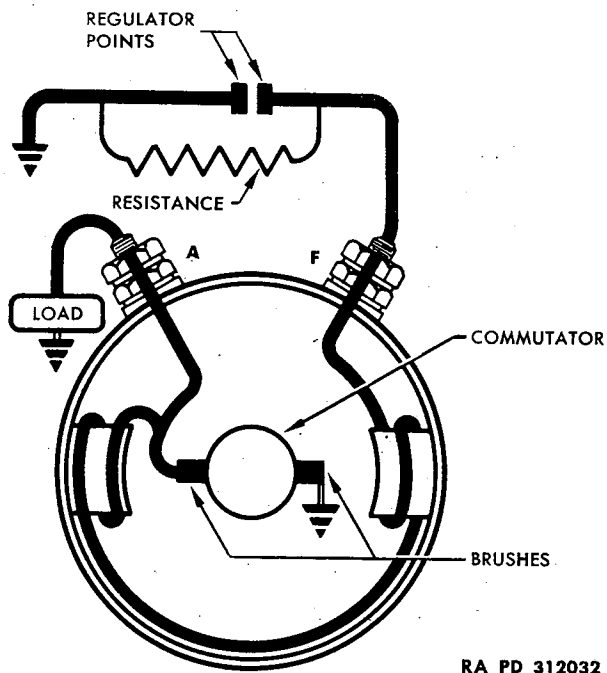

Figure 1—Type One Generator—Externally Grounded Field Circuit
e. The part of the circuit in which the resistance is inserted determines whether the generator is type one or type two. Figure 1 illustrates a simplified wiring circuit for type one generator. The field circuit is connected inside the generator to the insulated brush. Outside the generator, the other end of the field circuit is connected to ground (the return circuit) through a resistance, or through a set of points. The resistance and set of points are in the regulator, the operation of which will be detailed in chapter 3.